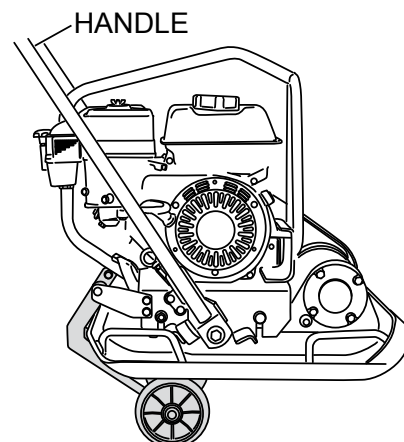

Figure 12. Transporting The Compactor
7. Pull back handle to the normal position (Figure 12). Compactor is now ready for transport.